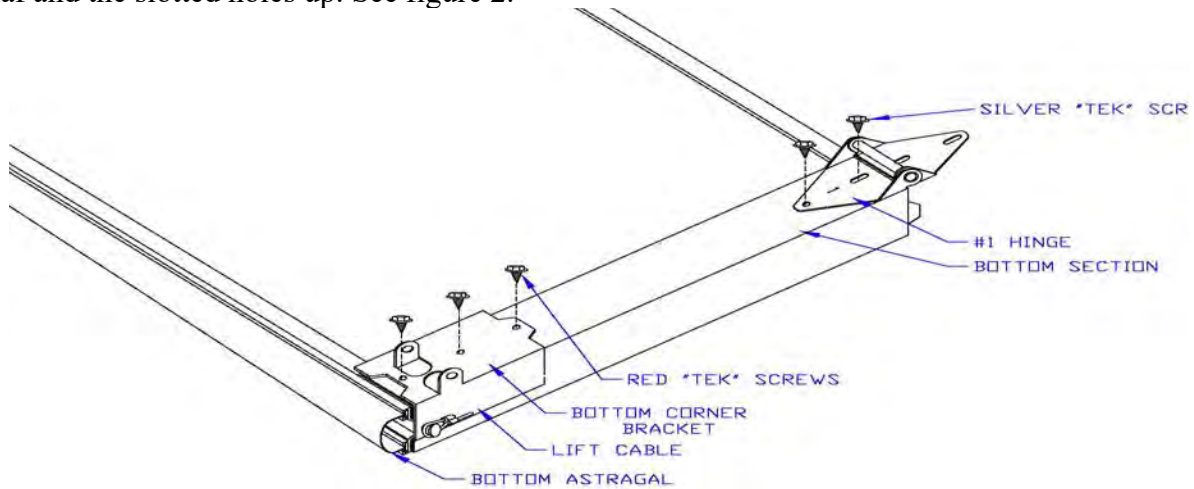

Figure 2
Step 1: Place the bottom section face down on saw horses. Attach the lower leaf of #1 hinges to the top of the stiles using two ¼" x ¾" silver "TEK" screws. Hinges should always be placed with the hinge number on the bottom leaf and the slotted holes up. See figure 2.
Step 2: Attach bottom corner brackets flush to the bottom of the end stiles with three ¼" x ¾" red "TEK" screws. Hook the looped ends of the lift cables over the button on the bottom corner brackets. See figure 2.